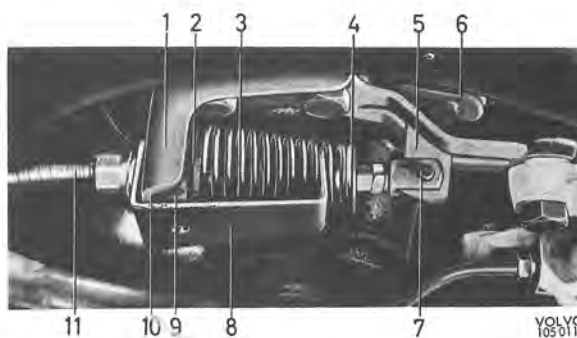

Fig. 5-81. Installing spring tool
5. Place holder 2742 so that the return spring is held in position according to Fig. 5-81. Bend up the lock and remove the lock pin so that the cable releases from the lever.
- Fit on new rubber cable guides for the cable suspension. Place the cable in position in the rear attachment and tighten the nut. Fit the washers and return spring. Compress the spring with the help of the holder tool, see Fig. 5-81. Oil the lock pin and fit it together with the cable on the lever. Fit the attachment and rubber cable guide on the frame member.